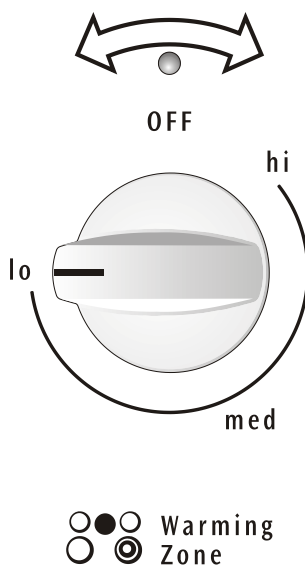

Fig. 1
1. Push in either direction and turn the knob (See Fig 1). The temperatures are approximate, and are designated by **hi**, **med** and **lo**. However, the control can be set at any position between **hi** and **lo** for different levels of warming.